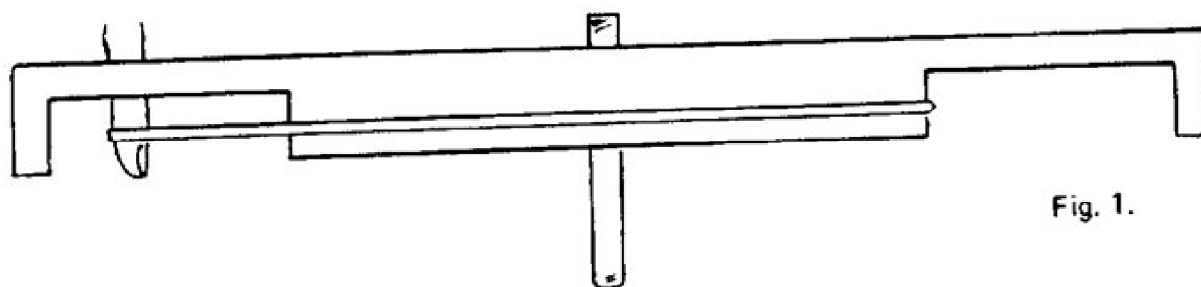

Fig. 1.
- 2.5 With your index finger through one of the access holes in the platter, hold the drive belt in position ready to pass around the motor pulley. **See fig. 1.** The small pulley for $33\frac{1}{3}$ RPM, the large pulley for 45 RPM. (The last sentence is not applicable on the D/C version with electronic speed control).
- 6.2 With your index finger through one of the access holes in the platter hold the drive belt in position ready to pass around the pulley (fig. 1).